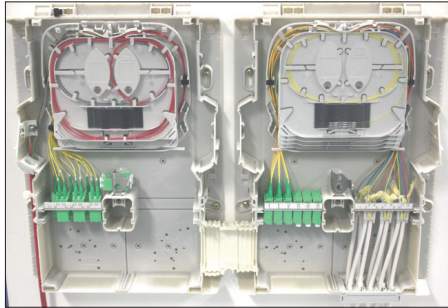

Fig.34
**Tip:** Start by inserting the bottom half of the coupling tube into the cutouts you made in the sidewalls of each enclosure, and then continue with normal cabling of each box. After routing the patch cables (recommended cable length: 50 cm) through the tube between the DP and BD, close the channel with the top half of the tube (Fig. 34, 35 and 37).